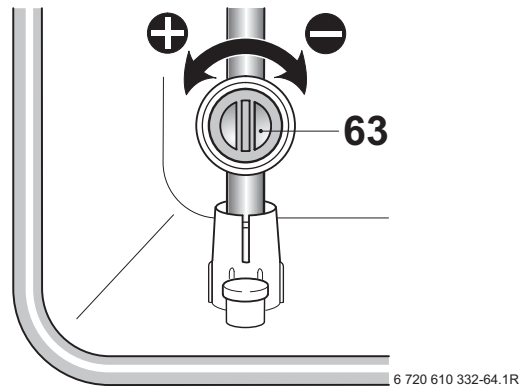

Fig. 42
- ▶ Adjust the gas flow restrictor (63) to obtain the CO2 level given in Table 14. Refer to fig. 42.